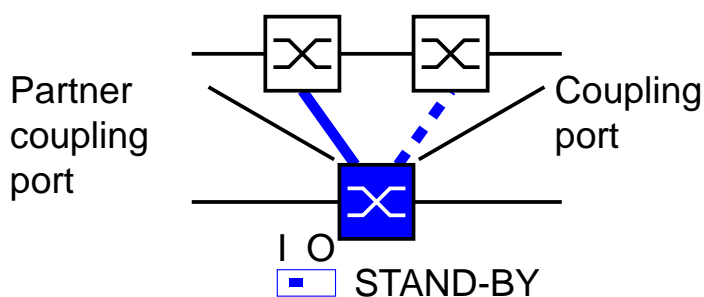

Fig. 13: One-switch coupling
- Select the one-switch main coupling (see Fig. 13)